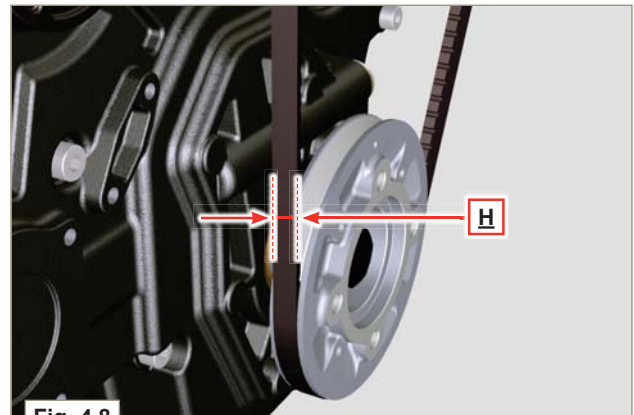

Fig. 4.8
- 3 - Check that at point **p** the tension value is between **70** and **75 Hz** for V-belt of 9 mm and **80** and **85 Hz** for V-belt of 17 mm (**Fig. 4.8**) (**H**).
By the tool **F** (DENSO BTG-2) shown in the picture (or a similar one) it is possible to check the corresponding value in Newton, (which should be) included between **200** and **230 N** for V-belt of 9 mm and **350** and **450 N** for V-belt of 17 mm (**Fig. 4.8**) (**H**).